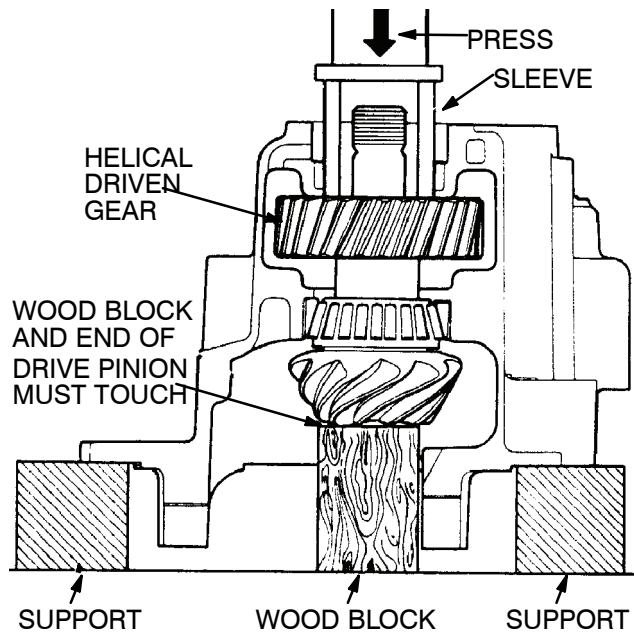
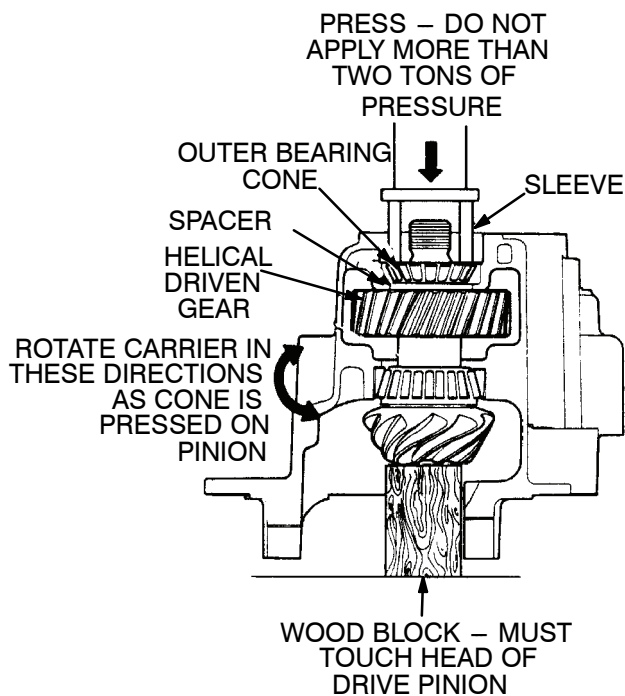

Figure 55.
Figure 57.
- (5) Reposition carrier in press with carrier flanges facing downward. Support carrier with press plates under carrier to housing flanges. Block up pinion under pinion head, high enough to allow inner bearing cone and cup to be in contact. See Figure 55.
- (6) Press helical gear completely onto splined portion of the pinion shaft. Continue pressing on the gear until contact with the spacer is achieved. Use a suitable sleeve that will slip over the pinion shaft and against the gear hub. Refer to Figure 55.
- (7) Block up pinion under pinion head, high enough to allow inner bearing cone and cup to be in contact. Press helical gear completely onto pinion shaft until contact with the spacer is achieved. Use suitable sleeve that will slip over pinion shaft and against gear hub. See Figure 55.
- (8) Install the correct size of spacer on the shaft of the pinion in front of the helical driven gear.
- (9) Put the outer bearing cone on the drive pinion shaft. Put a sleeve on the top (inner race) of the outer bearing cone and apply press pressure of approximately two (2) tons. As pressure is applied, rotate carrier in both directions to properly seat bearings. Refer to Figure 57.